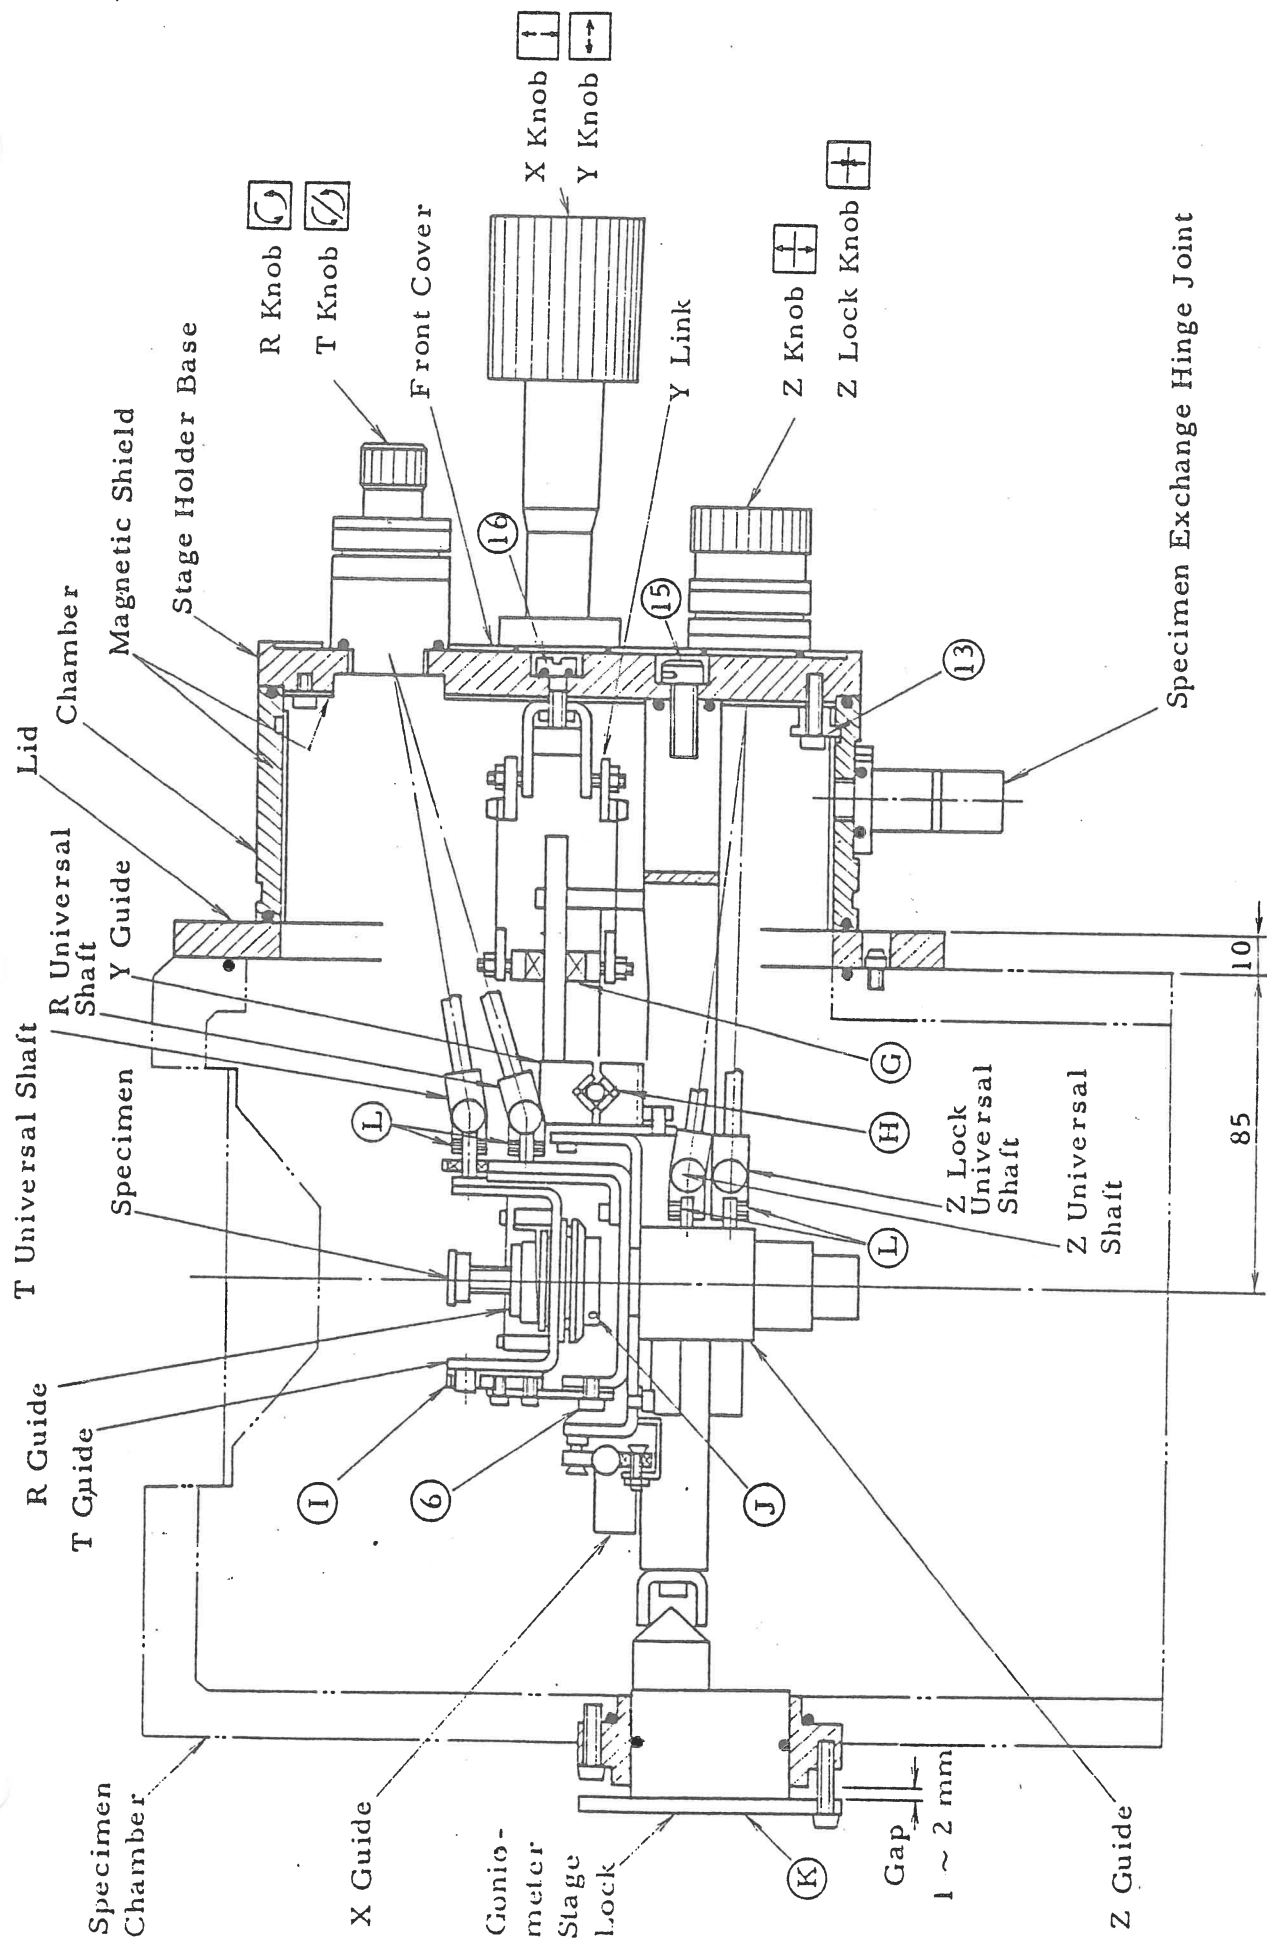

Fig. 4-11 Sectional View of Specimen Goniometer Stage
- 7) Check if slide bearing (G) (Fig. 4-11) is properly mounted without looseness.
- 2) Check if four steel balls (H) (Figs. 4-11 and 4-12) are mounted to each guide assembly.
- 3) Check steel ball faces (H) (Figs. 4-11 and 4-12) of each guide assembly for dust deposit.
- 2) Check if T-mount shaft brake (I) (Fig. 4-11) is securely mounted without looseness. (Check if the T-knob torque exceeds 500 g/cm).
- 3) Check if R-ball holder (J) (Fig. 4-11) is securely mounted.
- 4) Check if a 1 ~ 2 mm gap exists in the specimen goniometer stage base lock K (Fig. 4-11).
Check the screw (L) (Fig. 4-11) at the tip of knob drive shaft for looseness: Disassemble and check it.